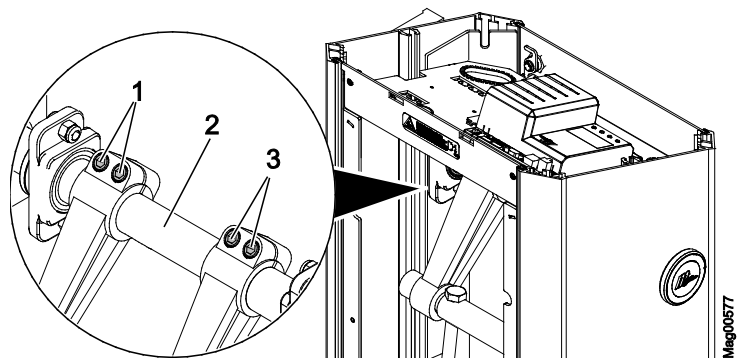

Fig. 34: Access XL2 – Loosen hexagon socket screws
- Access XL2: See page 75, Fig. 34.